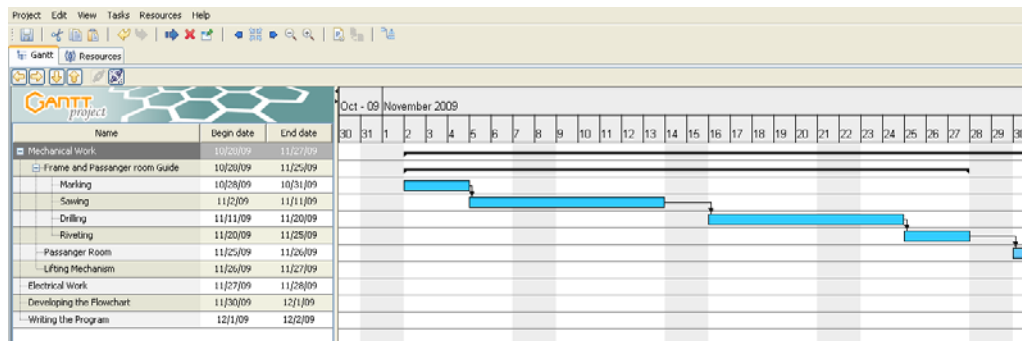

Figure 3.16: The project's new start date.
17. In the Date section, click the **Show Calendar** button next to the Begin Date box, click the first Monday following the current week, then click **OK**. Notice that the entire project moves forward to reflect the new project start date. Notice also that weekend dates in the project timeline are automatically bypassed as shown in figure 3.16.